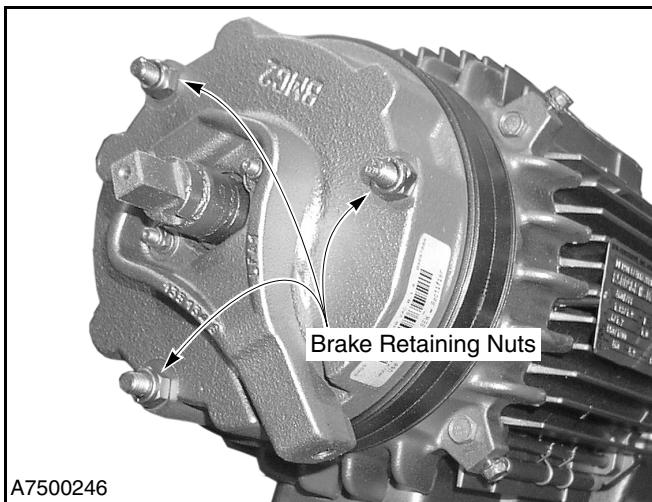
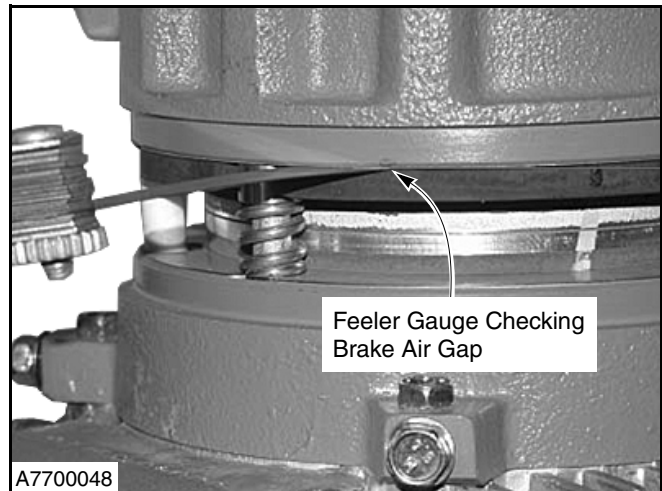

Figure 51
Figure 52
- Using a feeler gauge and a nut driver, adjust the retaining nuts until you achieve the proper air gap (0.010–0.024-in.). (See Figure 51 and Figure 52.)